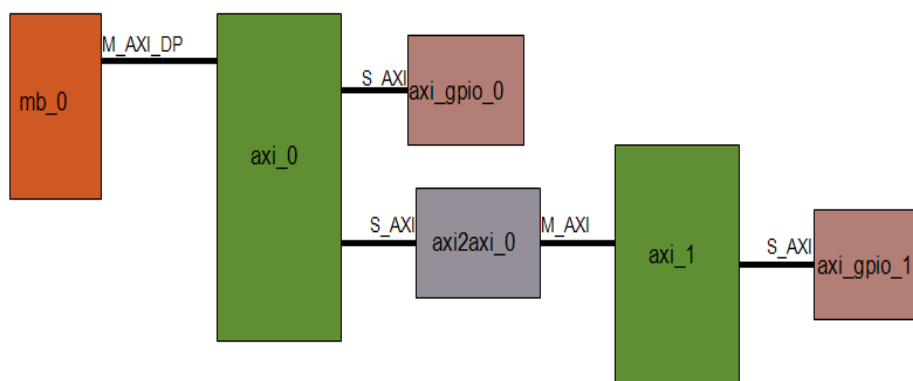

Figure 2-2: AXI Sample Design
**axi2axi\_connector core:** The `axi2axi_connector` core is used when two AXI Interconnects need to be cascaded. A sample design is shown in Figure 2-2:
A snippet of the MHS file for the design shown in Figure 2-2, page 26 is: